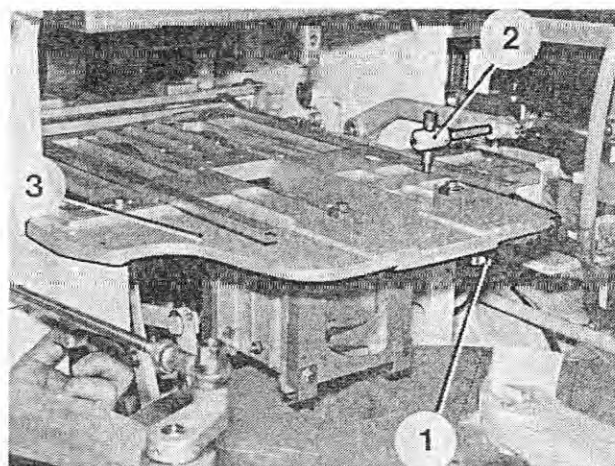

Fig. 136
6. Unscrew the star screws (Figure 136/1). Raise the control sensor (Figure 136/2) and remove the folding box (Figure 136/3).